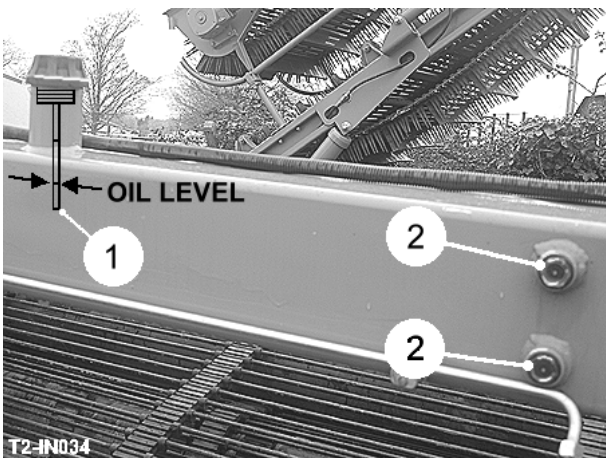

Fig 35
The hydraulic oil should be carefully monitored. The cold oil level should be kept to the lower mark on the dipstick (item 1, fig 35) with the dipstick screwed fully in. On earlier machines the level should be kept between the sight glasses (item 2, fig 35). Maintain the level by topping up or refilling with Esso Nuto 46 Hydraulic Oil. The reservoir holds approximately 410 litres. Should a high water content becomes apparent or a cloudiness in the oil, the hydraulic oil should be changed.